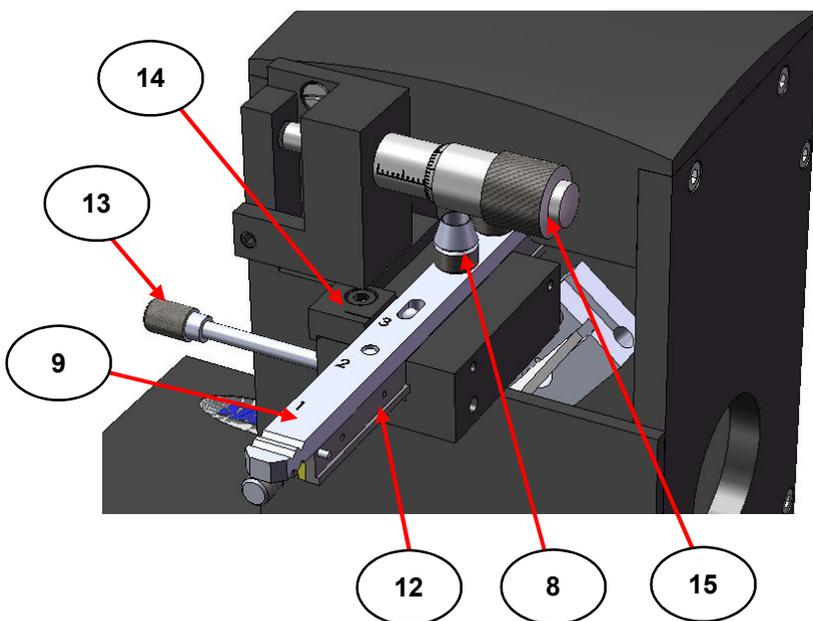

Fig 8. Minidiff Plus Sampling Position Indication
To place the mount holder assembly (9) onto the sliding support rod (12), first wind out the support rod (12) by clockwise rotation of the sample positioning screw (13), until the support rod (12) comes to its end stop position. Very carefully place to rest the mount holder assembly (9) into position over the two locating studs of the support rod (12) as shown at Fig 8, with the sample cups (8) end of the mount holder assembly (9) nearest towards the Minidiff Plus optical unit. Rotate the sample positioning screw (13) anti-clockwise, to position the filled sample cup (8) directly and centrally beneath the ellipsoid mirror (5) for its **sampling position**.
A “click” sound will be heard when a particular **sampling position** for cup position 1, 2 or 3 has been set. The mount holder assembly (9) has three sample cup (8) positions to allow for up to three sample cups (8) to be filled and placed on the support rod (10) at any one time. An appropriate **sampling position** to be set for the specific sample cup (8) position on the mount holder (9) is indicated by the number 1, 2 or 3 as this number aligns with the engraved mark (14) from rotation of the sample positioning screw (13). (From Fig 8, the **sampling position** for the fixed sample cup (8) at position 3 has been set as shown.)